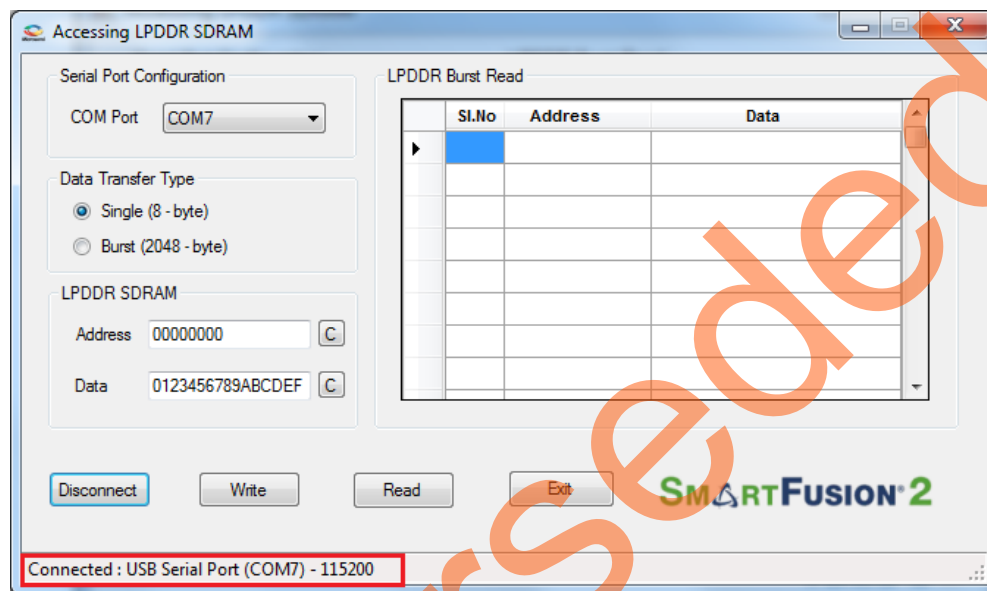

Figure 20 • SF2\_MDDR\_Demo – Connection Status
3. Click **Connect**. The connection status along with the COM Port and Baud rate is shown in the left bottom corner of the screen. Figure 20 shows the connection status of the utility.